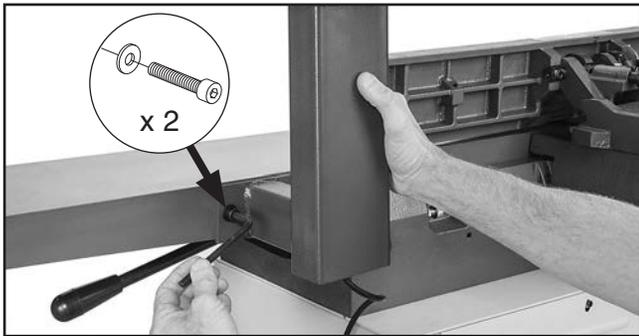

Figure 18. Attaching control panel pedestal to back of infeed table.
- Attach control panel pedestal to back of infeed table with (2) pre-installed M10-1.5 x 20 cap screws and (2) 10mm flat washers (see **Figure 18**).